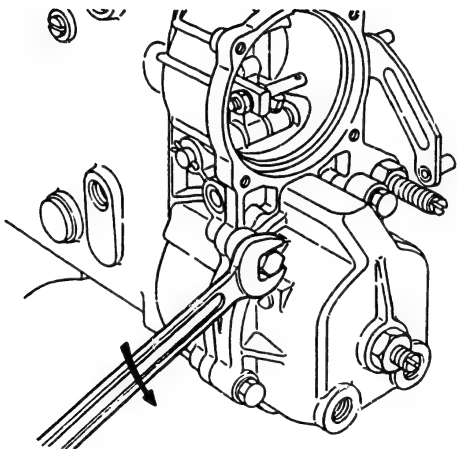

Fig. 34 Removing the five governor cover bolts
3. Remove the five bolts (136) and governor cover (125). (Fig. 34)
4. Remove the sleeve (123), pushrod (111), spring (112) and washer (110).